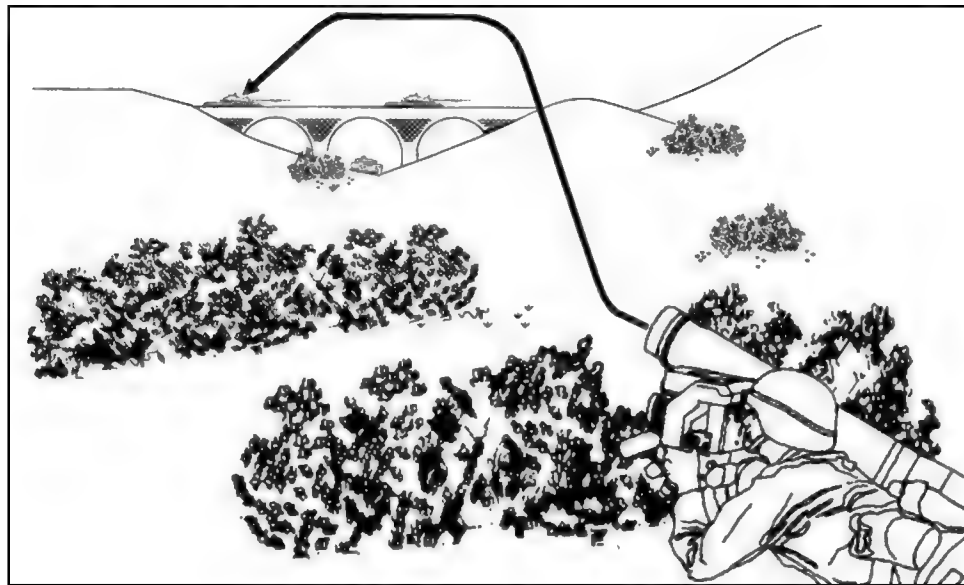

Figure 1-26. Top attack mode.
(1) The top attack is the default mode when the missile seeker is first activated. In the top attack mode, the missile approaches from above to impact and detonate on the top of the target (Figure 1-26). This capacity allows the gunner to attack a vehicle from the front, rear, or the side and greatly increases the probability of a kill. Armored vehicles usually have less protective armor on top. The minimum engagement distance is 150 meters.